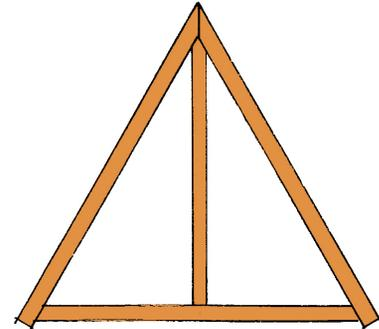

Figure 10
The two sloping members on the sides of the horizontal beam in Figure 10 are called **rafters**.
1. Copy the drawing in Figure 10. Write the name of each of the four members next to the member on your diagram. This is called adding **labels** to the diagram.